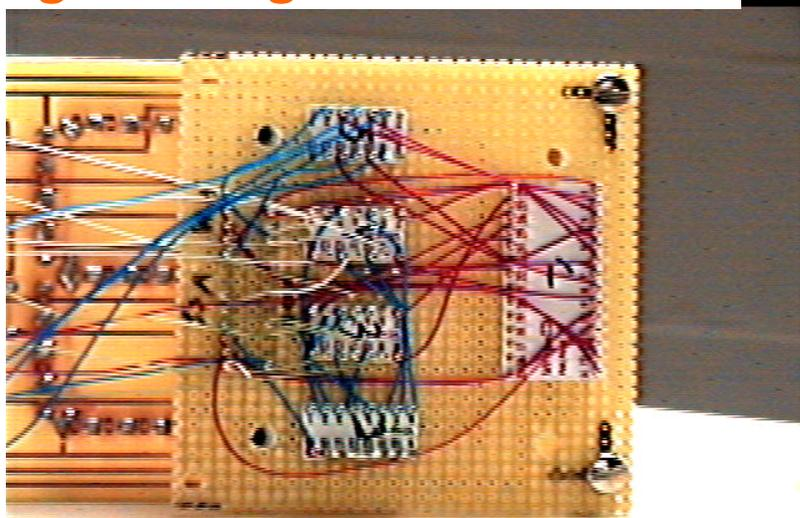

Fig 5
1. The wire wrap logic board assembly can be attached with mounting hardware before any wire wrapping commences (FIG 5)